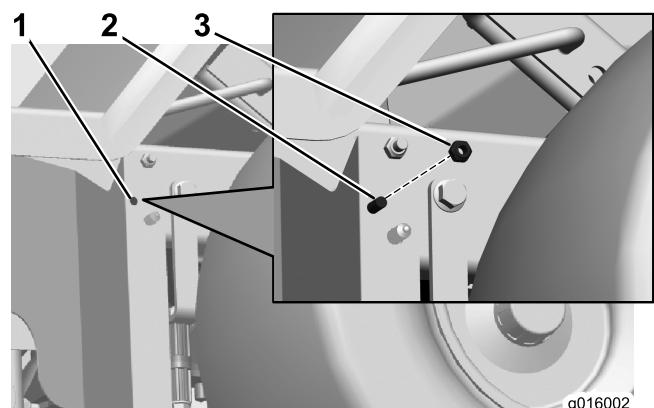

**Figure 5**
1. Attach the left frame belt guard as shown in Figure 5.